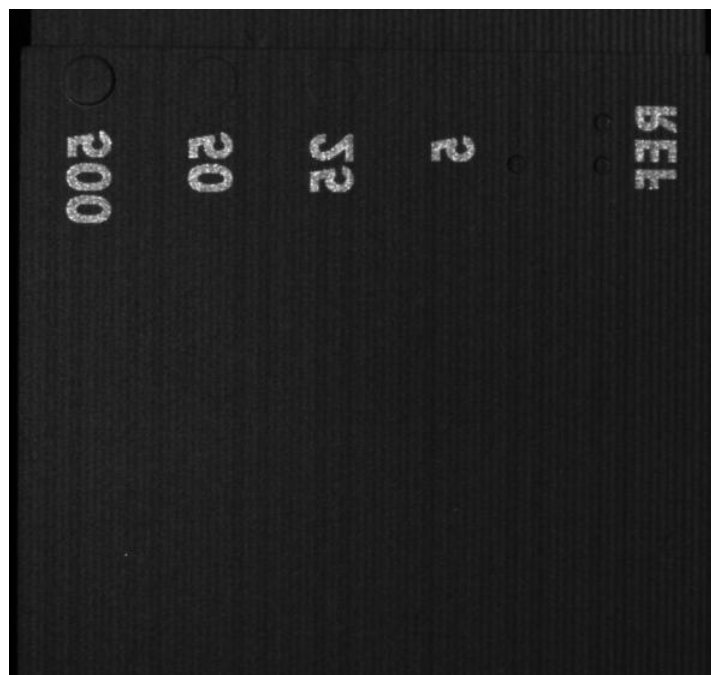

Figure 46 Fringe Pattern
45. Fringe pattern would illustrate at StCamSware GUI as below Figure 46.